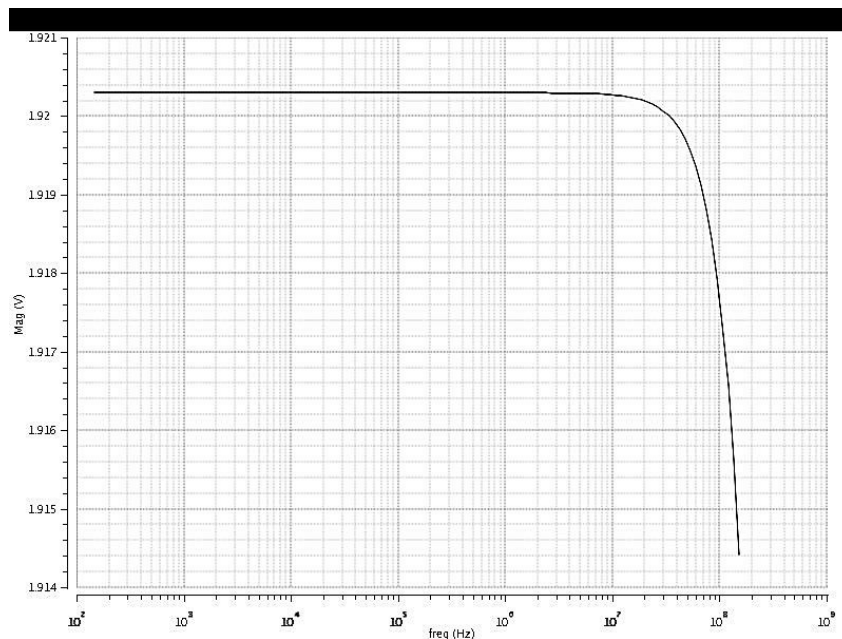
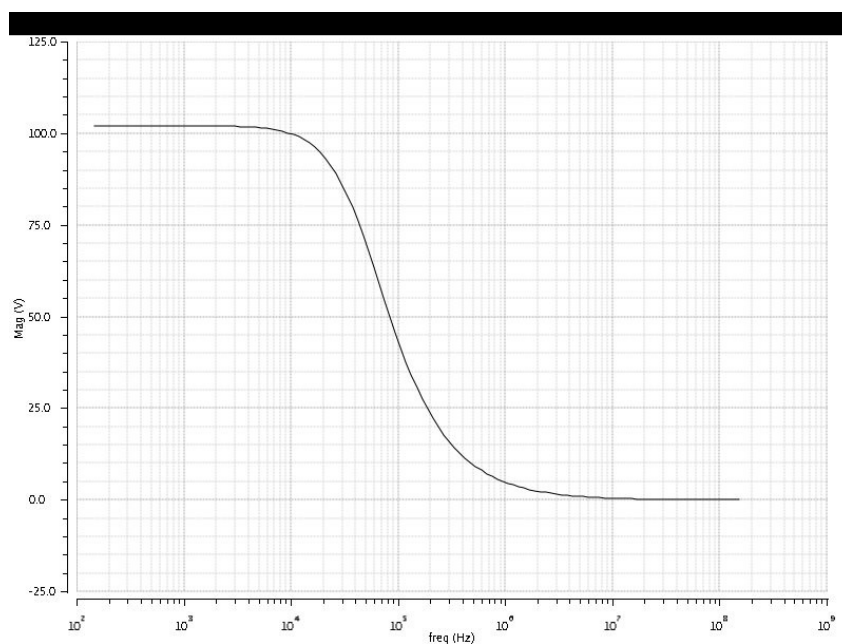

Figure 8.8: AC plot for CS amplifier
Figure 8.12: AC plot for Differential amplifier
(c) Click **Run** and you would get a similar plot as shown in Fig.8.8
- (f) A plot similar to the one shown in Fig.8.8 will be shown.
- (b) Also from Fig.8.8, it is clear that the bandwidth extends beyond  $10^6 \text{ Hz}$ , so it is safe to provide **frequency** to  $1 \text{ kHz}$ .
- Click **Run** and you would get a similar plot as shown in Fig.8.12
- (f) A plot similar to the one shown in Fig.8.12 will be shown.
- (b) Also from Fig.8.12, it is clear that the bandwidth extends beyond  $10^6 Hz$ , so it is safe to provide **frequency** to  $1kHz$ .
- 1. From the plots shown in Fig.8.8 and Fig.8.12, Use **cross** function to read the *3dB frequency* and *unity-gain frequency*.